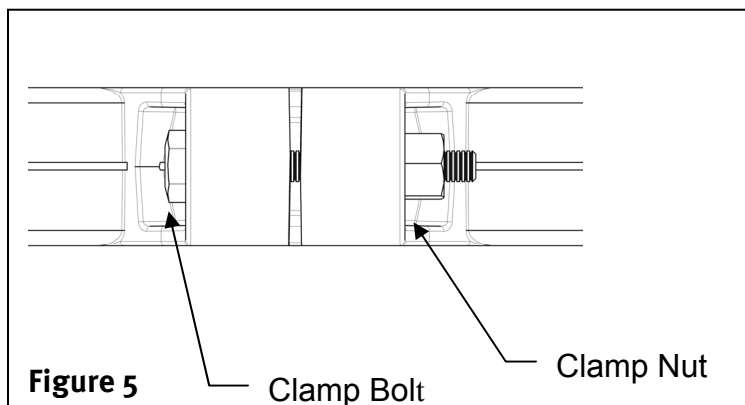

Figure 5
5. Using 3/4" wrenches or hex sockets, loosen and remove the clamp nut and the clamp bolt. (Fig 5)